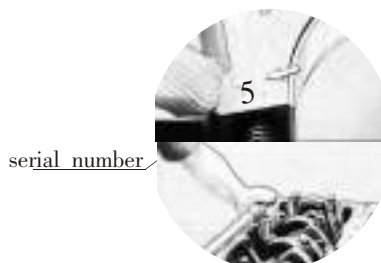

Fig 5-5 Main Bearing Cover Installation
1.5 Pay attention to sequence number on main bearing cover before installation, arrow mark is toward front end of crankshaft, not let them in disorder. Tighten main bearing bolts starting from middle to each ends across two times, tighten torque is 201–206 Nm (see Fig 5-5).